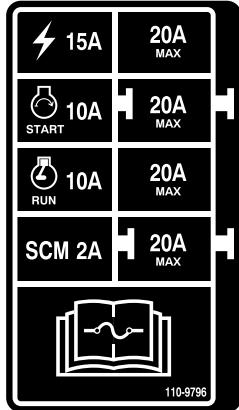

Figure 43
**Important:** If you need to replace a fuse, always use the same type and amperage-rated fuse as the one you are replacing, otherwise you could damage the electrical system. Refer to the decal next to the fuses for a diagram of each fuse and its amperage (Figure 43).